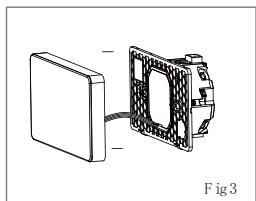

Fig 3
Step 3 : Snap the thermostat screen and the mounting plate together to complete the installation.Power on for testing.(Fig3)
Step 3. Connect power supply, load into the appropriate terminals. (see "Wiring your thermostat" for details and Fig 3).